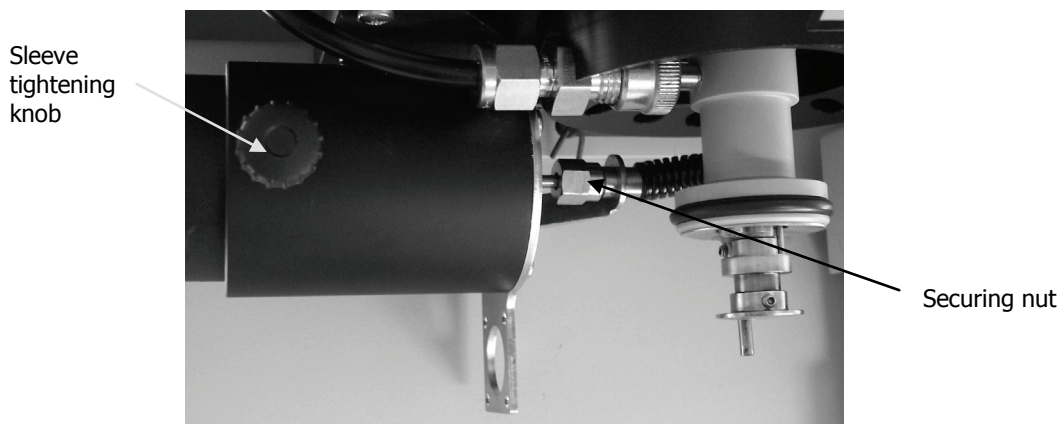

Figure 63 Removing the gas transfer line
2. Loosen both the securing nut that connects the gas transfer line to the gas transfer tube and the black plastic knob on the transfer line sleeve (Figure 63).